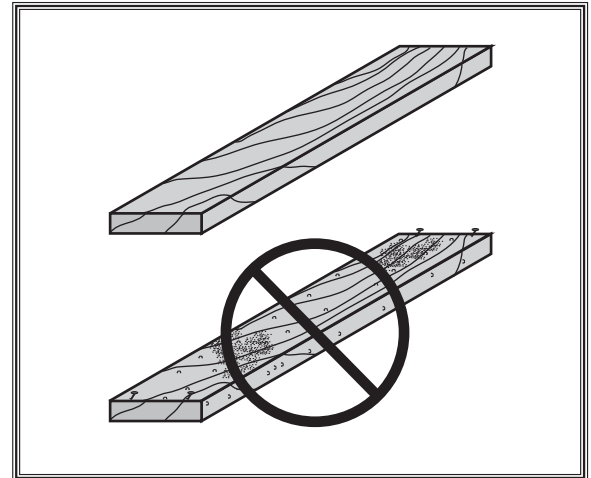

Figure 36. Choosing wood without embedded foreign objects embedded.
- **Foreign Objects (Figure 36):** Nails, staples, dirt, rocks and other foreign objects are often embedded in wood. While cutting, these objects can become dislodged and hit the operator or break the blade, which might then fly apart. Always visually inspect your workpiece for these items. If they can't be removed, do NOT cut the workpiece.